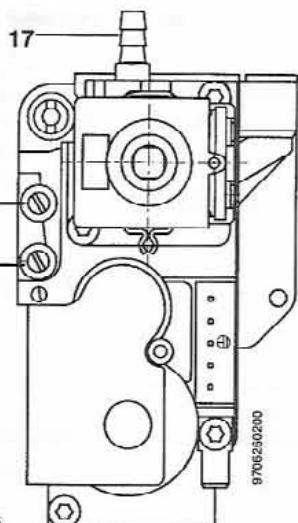
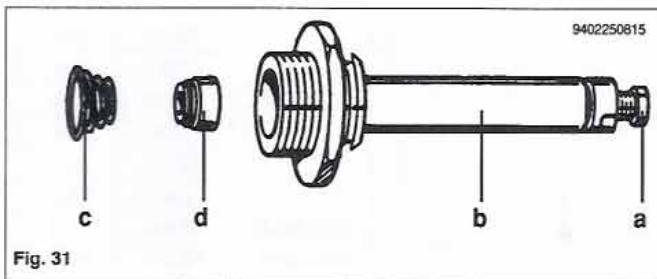

Fig. 35
Fig. 31
- f) udskift gastrykregulatorens fjeder og kontroller, at den er blevet korrekt placeret (fig. 31, pos."c - d");
- Forbind den positive del af et dysetryksmanometer (U-rørsmanometer) til gaskontrollens testnippel (15) fig. 35. Forbind (vha. en siliconeslange) manometrets negative del til en "T"-fitting for at bevare forbindelsen mellem brændkammeret, gasarmaturets kompensationsstuds (17) og manometret. (Samme måling kan foretages ved at forbinde manometrets testnippel (15) efter at have fjernet brændkammerets frontpanel).
- f) replace the pressure valve spring and check that it has been placed correctly (fig. 31, positions "c-d");
- connect the positive pressure test point of a differential (possibly water-operated) manometer to the gas valve pressure test point (15) (figure 35). Connect the negative pressure test point to a "T" fitting in order to join the boiler adjusting outlet, the gas valve adjusting outlet (17) and the manometer. (The same measurement can be carried out by connecting the manometer to the pressure test point (15) after removing the sealed chamber front panel);
- Uden at overspænde den sorte skrue (a) skrues den helt i på akselen (b) fig. 31.
- Åben for gasventilen og indstil driftvælgeren (3) på vinter-indstilling, og sørge for stort varmeforbrug. (Som alternativ hvis der er tilsluttet en varmtvandsbholder. Åbn for en varmtvandshanc for at få flow/tappehastighed på mindst 10 liter pr. minut).
- Kontroller på gaskontrollens testnippel (16) fig. 35, at tilslutningstrykket er korrekt:
- without exceeding fasten the black screw (a) onto the tube (b) (figure 31);
- open the gas cock and set the selector switch (3) on wintertime operation (winter);
- check that boiler feeding dynamic pressure, as measured at the inlet gas valve pressure test point (16 figure 35) is correct (30 mbar for G.30, G.31, 20 mbar for natural gas);
- Den sorte minimumskrue (a) fig. 31, kan nu skrues udad/indad indtil minimum dysetryk er nået iht. tabel pkt. 7.5.
- unscrew the black screw (a) shown on figure 31 to obtain the pressure settings corresponding to reduced heat output (for natural gas and LPG see table 1 section 7.5);